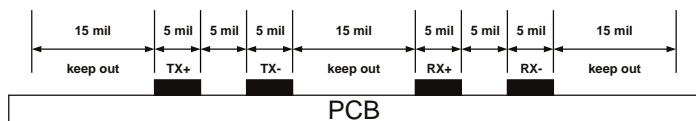

Figure 2. Transmit/Receive Differential Pair
- Keep transmit (TX) and receive (RX) pairs at least three times the distance from each other.
- Route TX and RX differential pairs using 5-mil trace width and 5-mil spacing. See Figure 2.